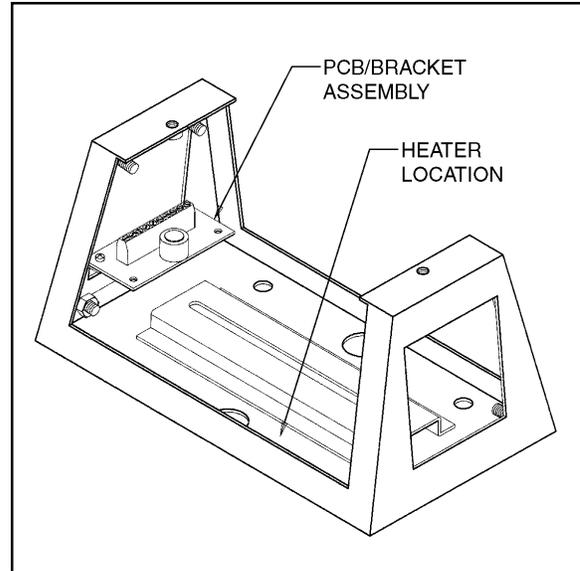

Figure 1. Heater Kit Installation
2. Attach the PC board/bracket assembly to the rear plate using two (2) 1/4-20 nuts and lock washers, attaching to the studs on the end plate (see Figures 1 and 3).